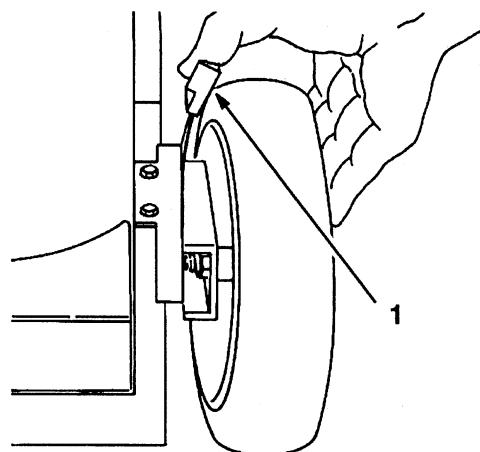

Figure 14
2. For easier adjustment, lift housing up so wheel is off ground. **Do not place hands under deck to lift housing.** Squeeze adjusting lever toward wheel (Fig. 14) and move it to the desired setting. Assure pin on adjusting lever engages notch in mower housing wear plate. Adjust all wheels to the same setting.